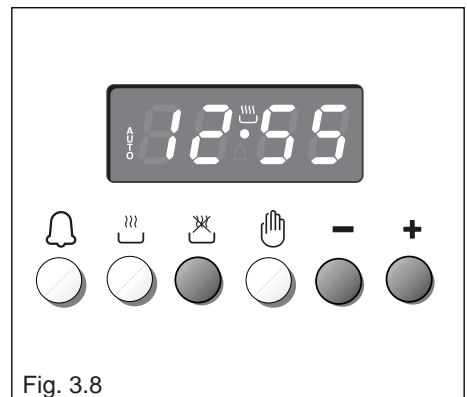

Fig. 3.8
2. Set the end of the cooking time by pushing the  button and the  button to advance, or  to go backwards if you have passed the desired time (fig. 3.8).